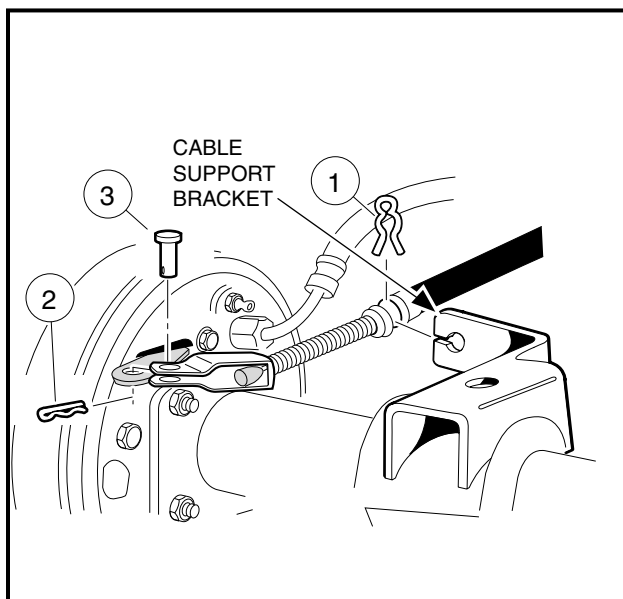

Figure 16-22 Park Brake Cable
- 7.1. Remove the park brake cable clip (1), hair spring cotter pin (2) and clevis pin (3) (**Figure 16-22, Page 16-11**).
- 7.2. Remove the cable from the cable support bracket (**Figure 16-22, Page 16-11**).